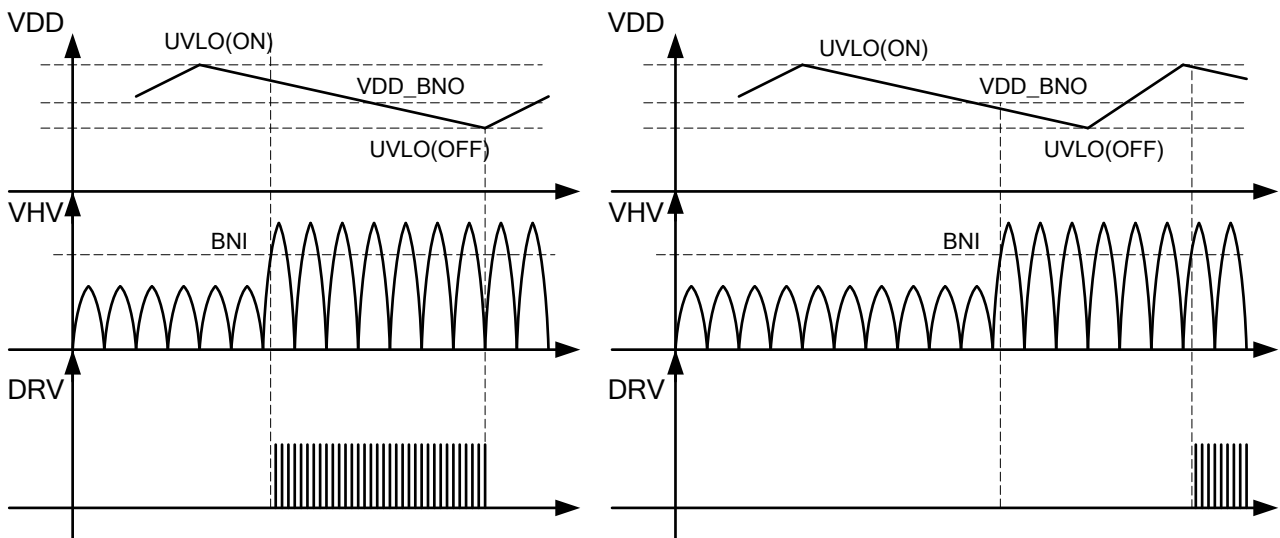

Fig. 5.2
The WT7162RH features brown in/out protection on HV pin. When HV pin voltage (VHV) goes above brown-in threshold (BNI) and  $VDD > VDD\_BNO$ , the controller can start immediately. Otherwise, the controller actually starts the next time VDD reaches UVLO (ON), as shown in Fig. 5.2. When VHV goes below brown out threshold (BNO) for more than a de-bounce time, the controller will stop switching.